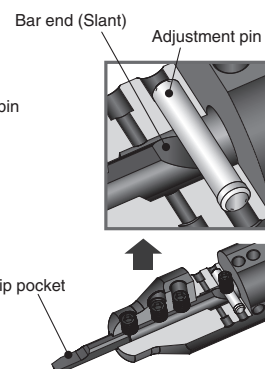

Fig.7: Fixed bar
- (1) With the chip pocket upward, set the bar into the sleeve. Press the slant of the end of the bar with the adjustment pin. Make sure that the bar does not move (Fig.7)
- (2) Tighten the clamp screw with wrench (LW-2) and fix the bar. (Use LW-1.5 if shank dia. is 3mm or less)